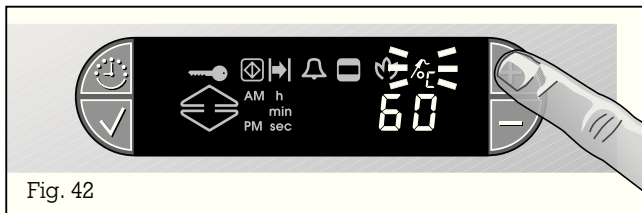

Fig. 42
- Press the + key. The  (Core temperature sensor) symbol flashes and the suggested value of 60 °C appears on the display. (Fig. 42)
- Turn the “Temperature” control knob on the right (top oven) to the 0 position. (Fig. 42)